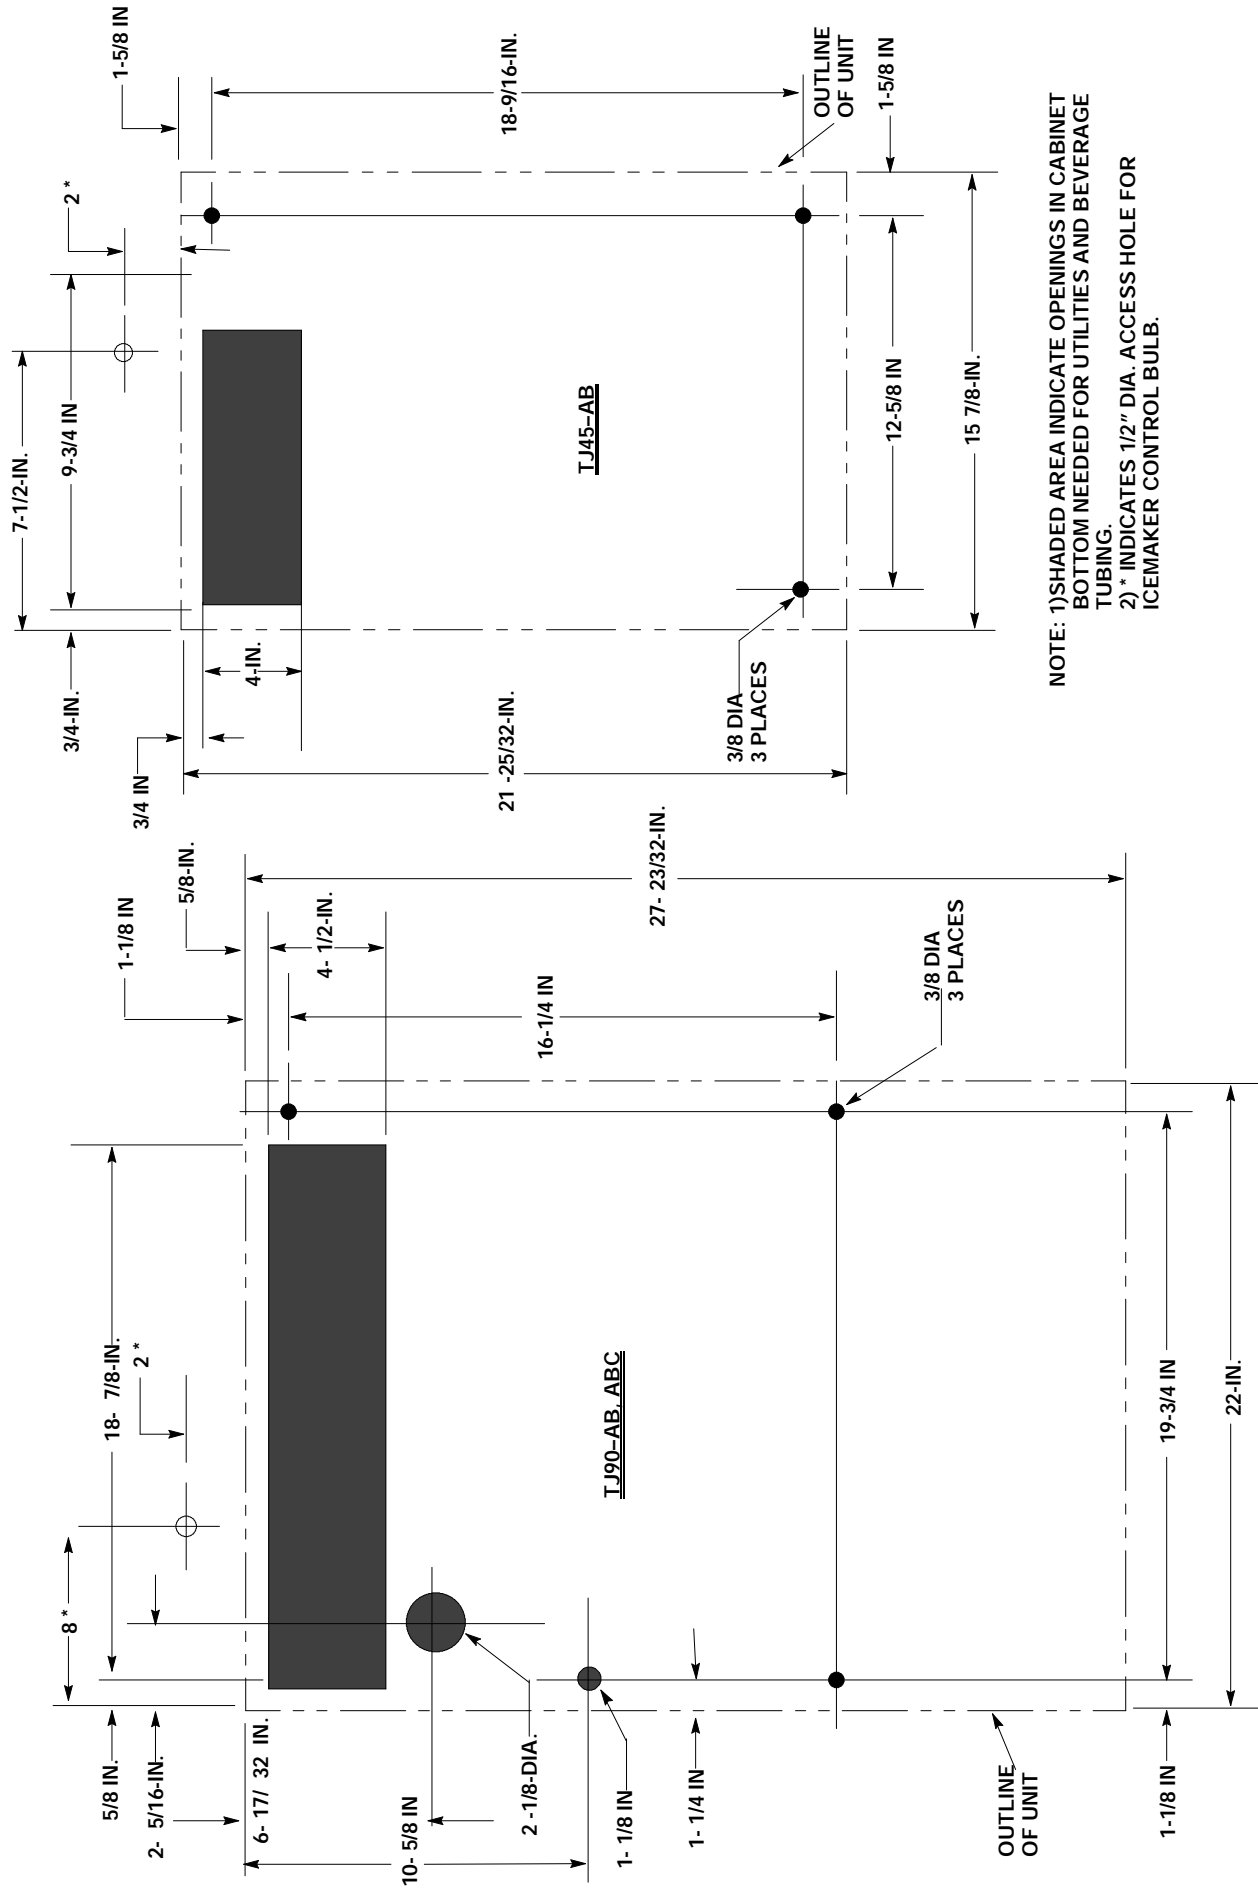

FIGURE 3. MOUNTING TEMPLATE
4. Permanently wire the dispenser to a source of 120V, 60Hz. power as shown in Figure 3. Wiring must conform to N.E.C. and local codes